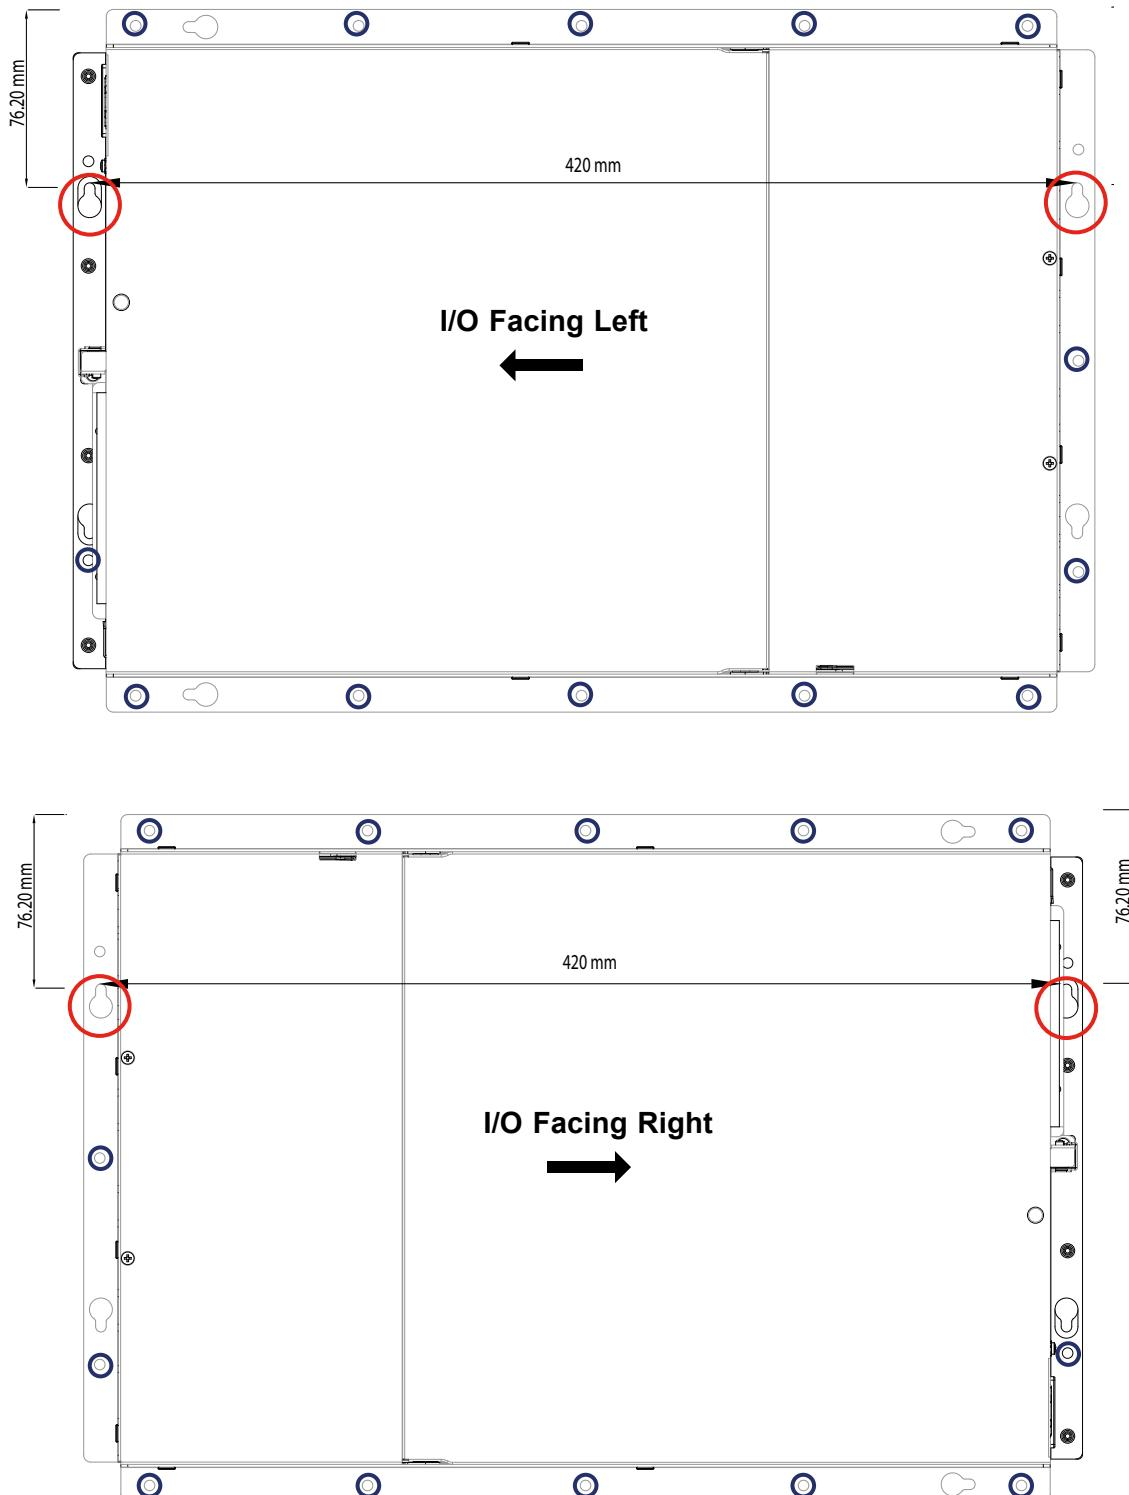

Figure 2-2. Possible Mounting Orientations
3. Mark two keyhole spots on the surface where the server will be mounted. The two keyholes for each orientation are circled in red. See Figure 2-2.
6. Install screws or nails in all the holes circled in blue. See Figure 2-2.